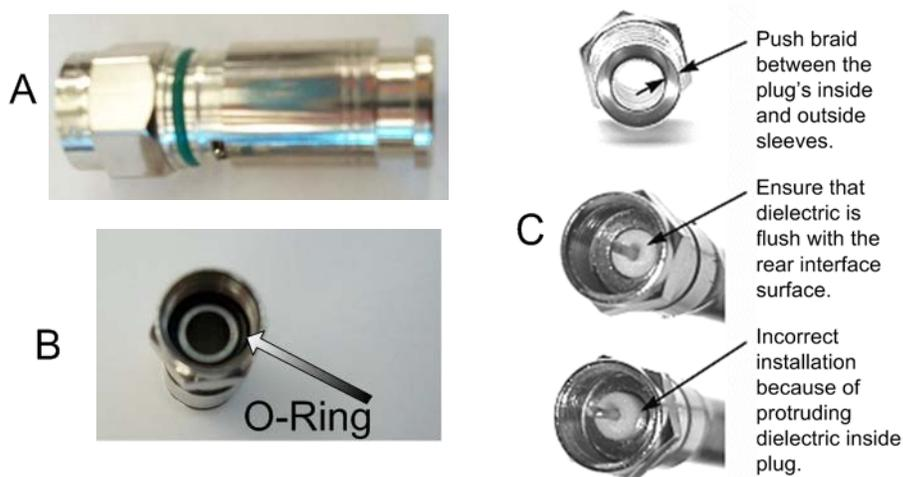

Figure D-4. Attaching the Compression fitting F-type Connector
8. Install the RG-6 connector compression sleeve, or mandrel, (top left (A) in Figure D-4) over foil and underneath the braid. A good, weatherproof outdoor connector mandrel should have a visible O-Ring (bottom right (B) Figure D-4).
NOTE: The white colored inner dielectric insulation should be flush with the inner rear surface of the connector. Refer to the picture on the right (C) in Figure D-4 for an RG-6/RG-11 termination.
NOTE: Since the RG-11 connector has a built-in center pin, ensure that the coax center pin makes contact to the internal seizing pin of the connector. Refer to Figure D-4.